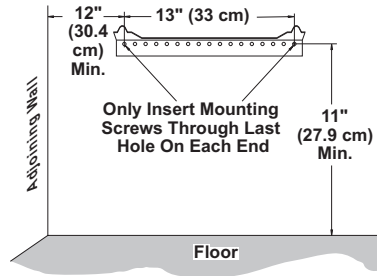

Figure 10 - Mounting Bracket Clearances
**WARNING: Maintain minimum clearances shown in Figure 10. If you can, provide greater clearances from floor and joining wall.**
2. Mark screw locations on wall (see Figure 10).